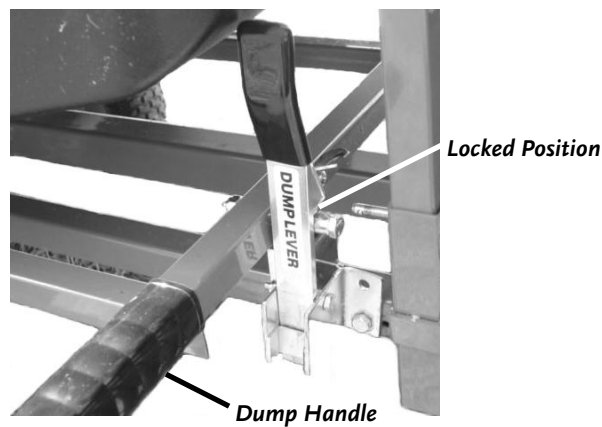
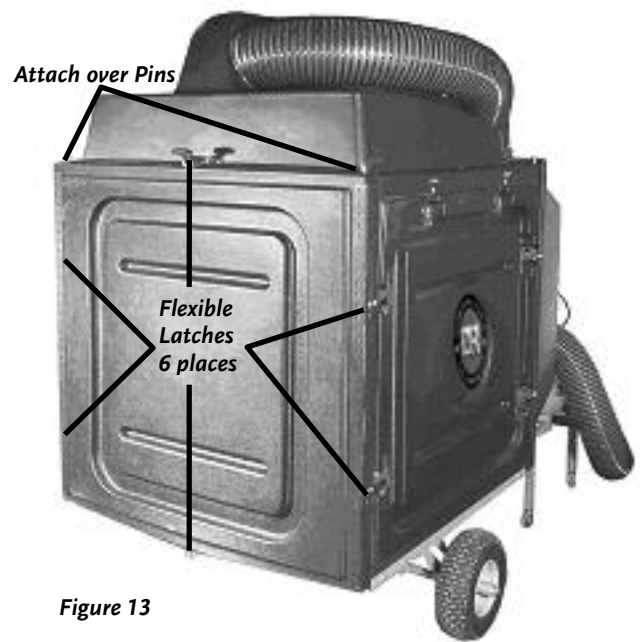

Figure 8
Figure 13
5. Lower the Tilt Bed, using the Dump Handle, to the down position and make sure that the Dump Lever locks into place before proceeding with the Collector Box installation (**Figure 8**). The Dump Lever is spring loaded so it will click into the Locked Position when the Tilt Bed is all the way down.
6. Lower the Bed until locked in place with the Dump Lever (**Figure 8** on page 15). Attach the Rear Panel on the protruding Pins and secure in place with the six (6) Flexible Latches (**Figure 13**).